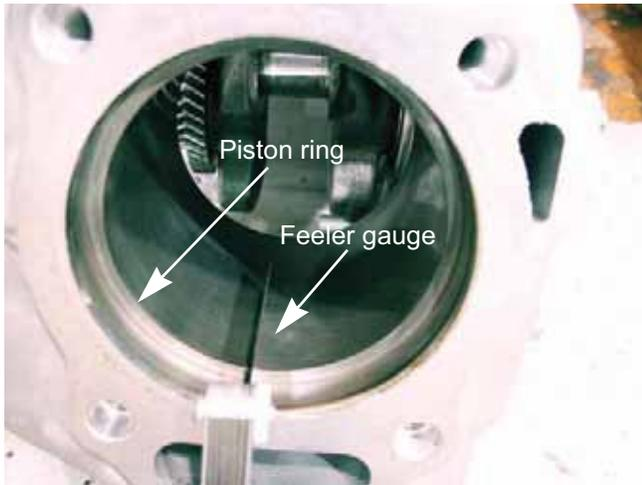

Figure 10.8
3. Insert one ring into the cylinder. Push it down about one inch from the top. See Figure 10.8.
4. Measure the end gap with a feeler gauge and compare to the chart at the end of this chapter. See Figure 10.8.